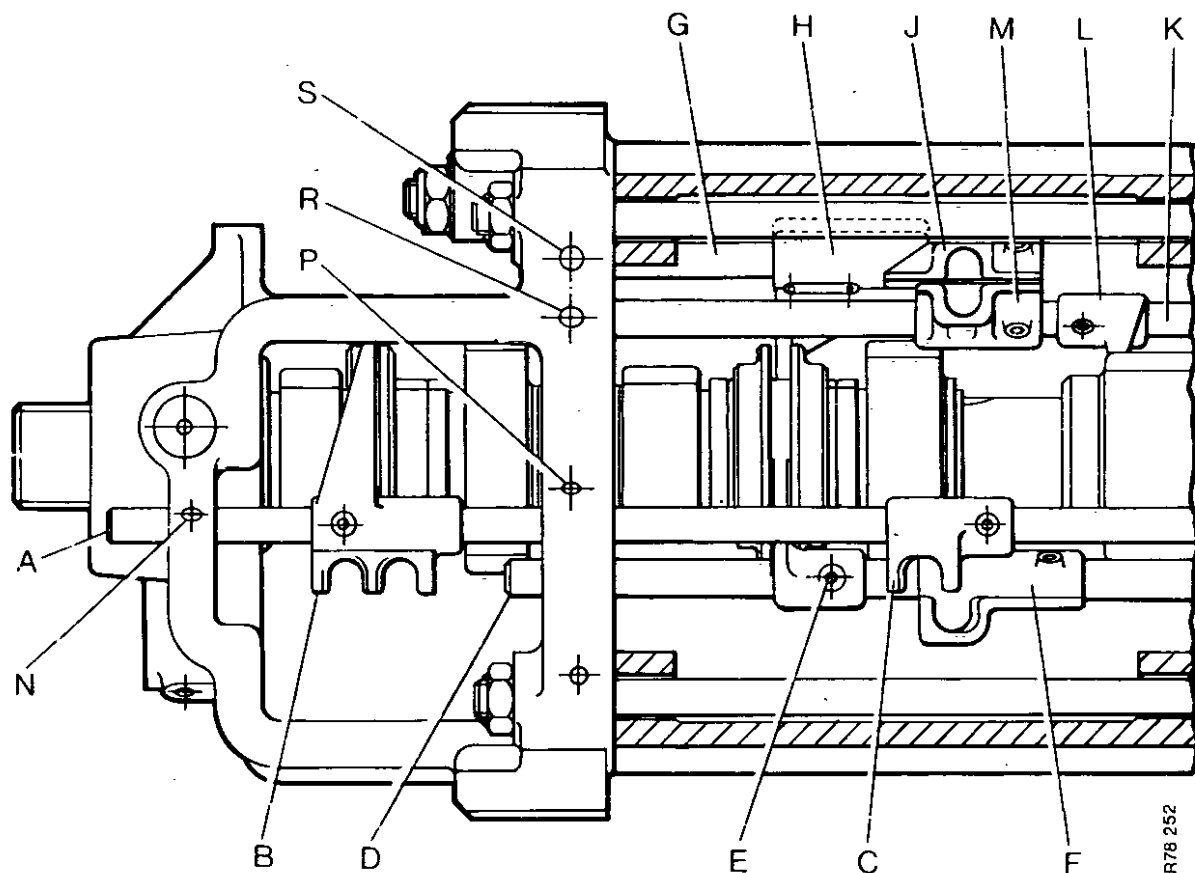

FIGURE 87. ARRANGEMENT OF SELECTORS
5. Put a bar under the slow/normal selector rod A, as a support. Use a hammer and punch to remove the pins which fasten the selector jaw C, and fork B, to the rod. See Figure 87.